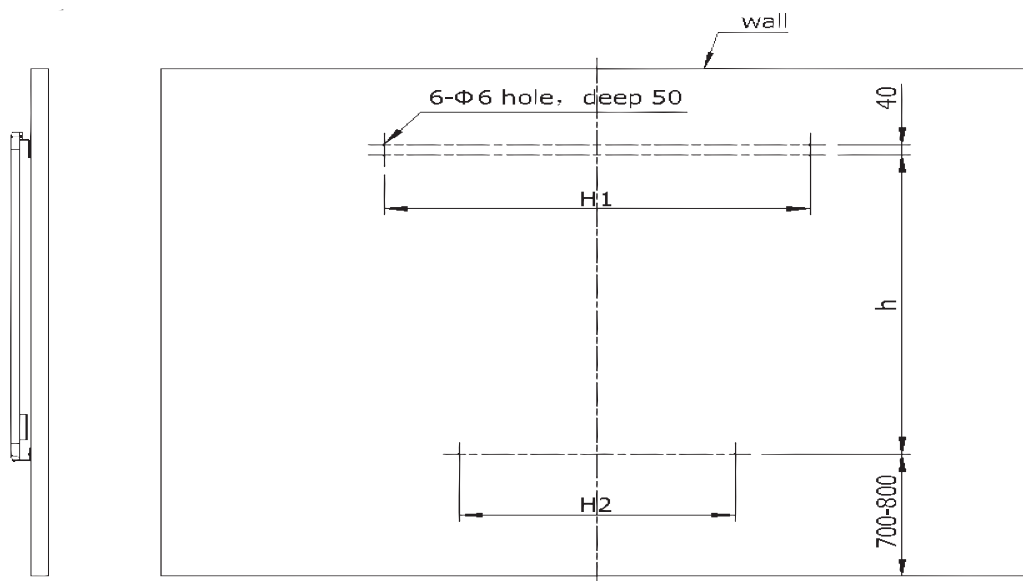

Figure 3 . Spacing of holes in the wall
3. Drill six holes in the wall using drill as shown in Figure 3, namely: four holes for two hooks (item no 1) and two holes for two wall brackets (item no 3). Before drilling the holes, measure and confirm the following distances: